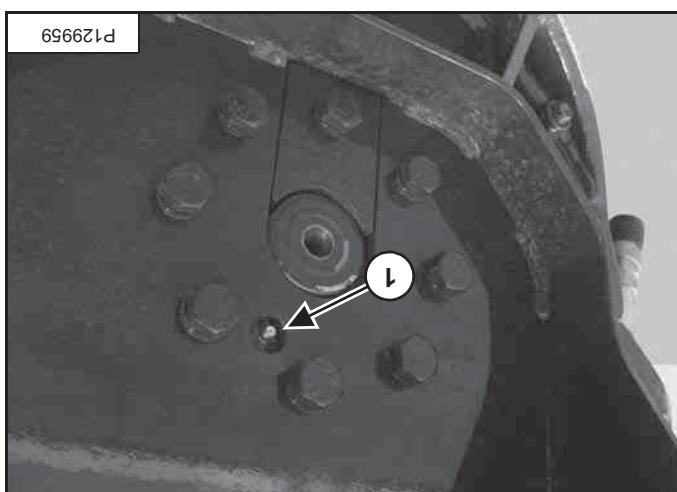

Figure 116
On the left side of the FRC150ST Forestry Cutter, grease fitting (item 1) [Figure 116] for the drum bearing. Add one pump of grease for every 8 hours of operation.